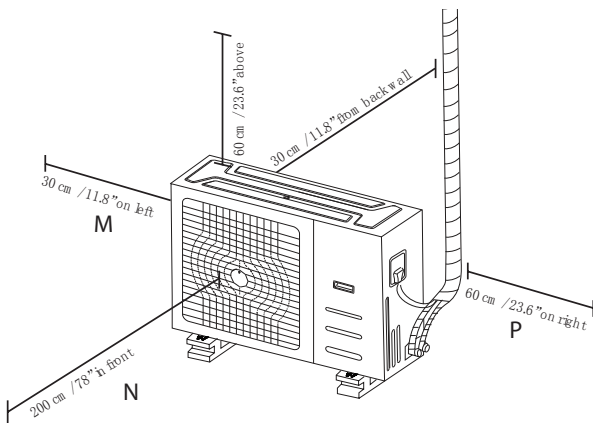

Fig. 6.10
**NOTE:** The minimum distance between the outdoor unit and walls described in the installation guide does not apply to airtight rooms. Be sure to keep the unit unobstructed in at least two of the three directions (M, N, P) (See Fig. 6.10)